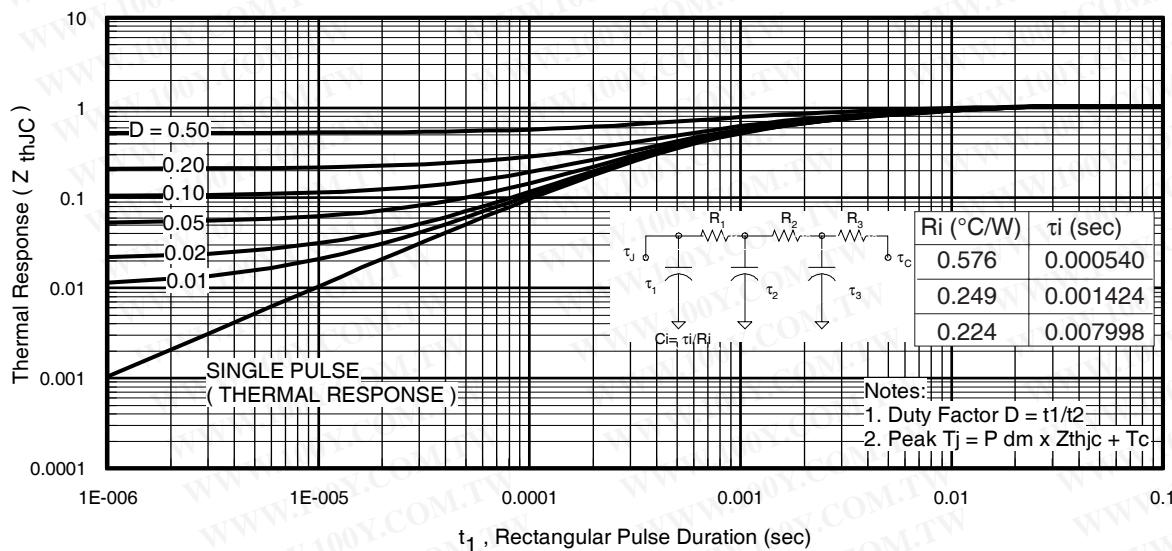

Fig 11. Maximum Effective Transient Thermal Impedance, Junction-to-Case
- $Z_{thJC}(D, t_{av})$ = Transient thermal resistance, see figure 11)